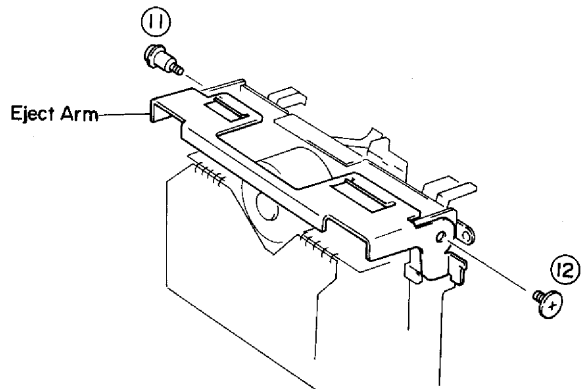

Fig. 8
- b. Remove the 1 screw (11) and 1 screw (12) in fig. 8, then remove the eject arm.